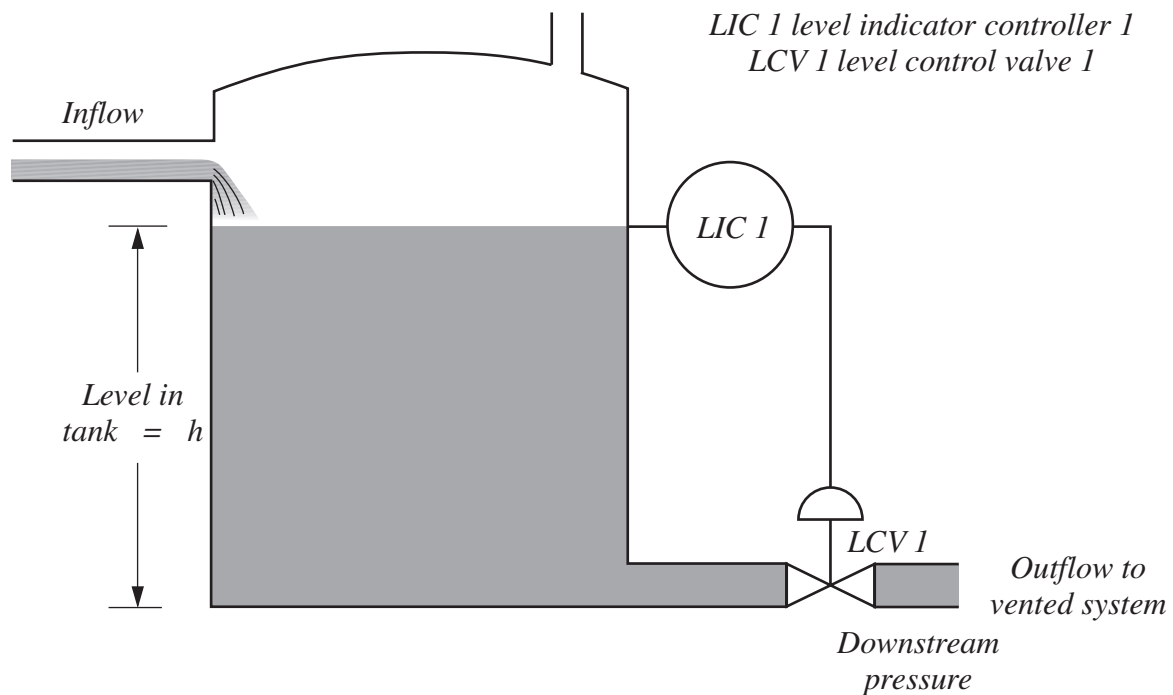

FIG. 2
- (c) There should be a stable pressure drop across the control valve. This implies that the supply demand, subject to the process variables upstream of the valve, and the load demand, subject to the process variables downstream of the valve, remain fairly constant. FIGURE 2 shows a process which satisfies these criteria.